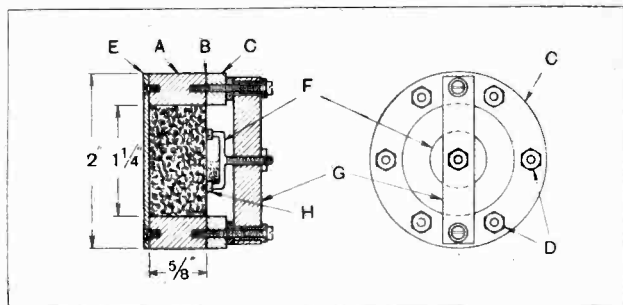

Fig. 3.—Section of carbon granule microphone.
microphone of the ordinary type can be made suitable for the faithful transmission of speech and music by two important modifications: (1) by damping the diaphragm very heavily, and (2) by the use of very fine granules. Both these objects are fulfilled by the microphone in question in the manner shown in Fig. 3.
The trouble was thus traceable to the transfer of the alternating voltage set up in the H.T. battery back on to the grid of the detector valve, and in this particular case it was cured by a choke-capacity output unit connected as in Fig. 3, the bulk of the alternating current being diverted through the loud-speaker to the filament, and thereby not giving rise to any appreciable alternating voltage in the H.T. battery. However, it is worth noting that this defect exists in a tuned-anode circuit, and it is as well to consider the great advantage in this respect offered by a high-frequency transformer.
Fig. 3.—Howling may frequently be cured by the use of a choke-capacity output circuit as the choke prevents the flow of A.C. from the last valve through the H.T. battery.